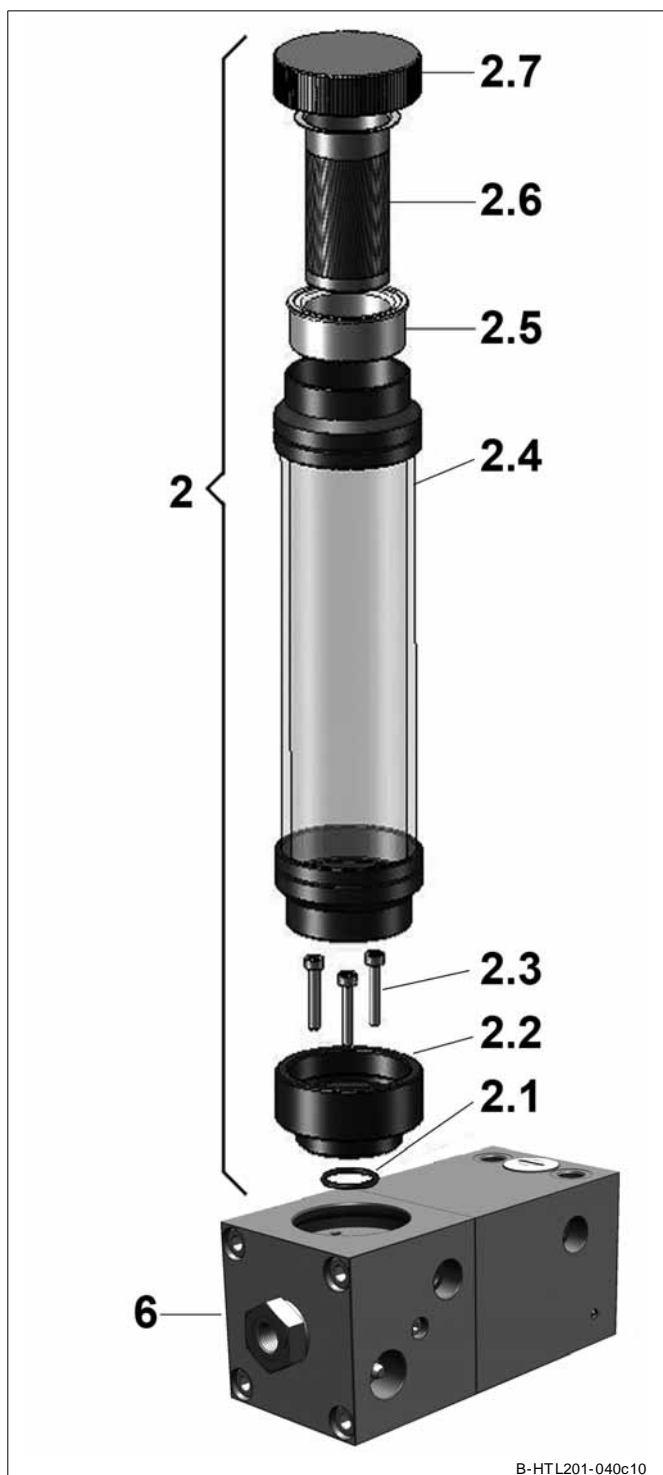

Fig. 4-8 Reservoir for oil, assy.
- Before the replacement or first insertion of a reservoir for oil 2 (Fig. 4-8) an adapter (pos. 2.1 to 2.3) must be mounted to the housing of the cartridge 6.